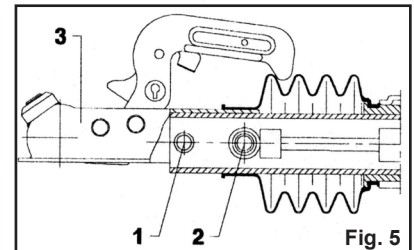

Fig. 5
1) Release gaiter from coupling head and loosen and remove self-locking nuts (Fig. 5/Item 1&2). Remove front bolt only (Fig. 5/Item 1).